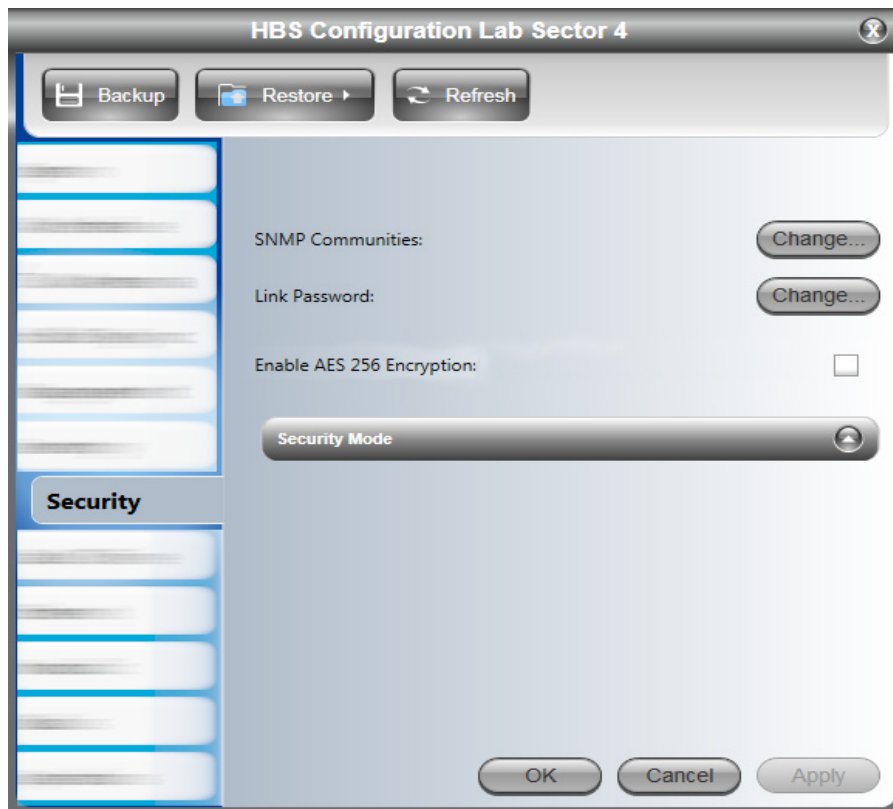

Figure 4-10: Sector Security settings - RT-A(HBS)
1. Open the Security tab (Figure 4-10).